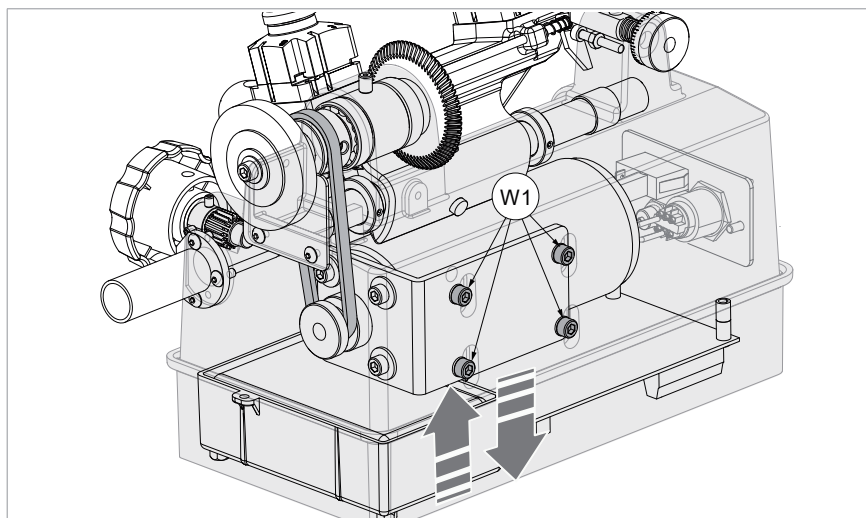

Fig. 51
- 7) Pull the motor towards the machine bottom until the belt has the right tension (Fig. 51). Tighten the 4 screws (W1).
- 10) Refit the handle (P) and the cutter cover (L).